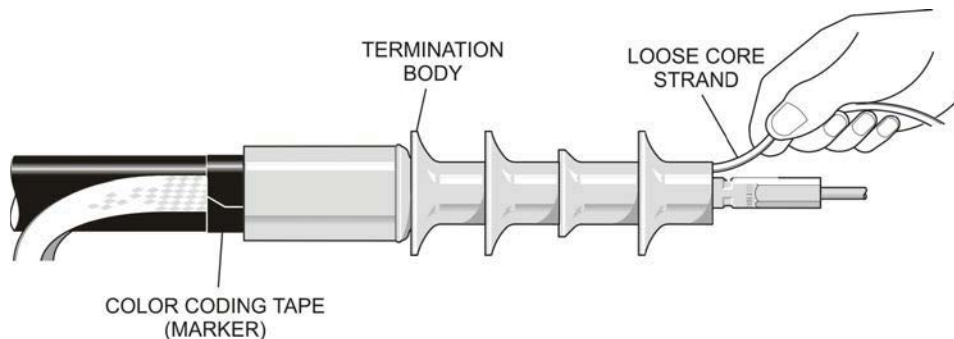

FIGURE 7
STEP 24: SLIDE THE TERMINATION BODY ONTO THE CABLE TO THE EDGE OF THE TAPE MARKER AND REMOVE THE CORE BY PULLING AND UNWINDING THE LOOSE CORE STRAND EXTENDING OUT THE TOP OF THE TERMINATION HOUSING IN A COUNTER-CLOCKWISE MOTION. SEE **FIGURE 7**. AN OCCASIONAL TUG OF THE STRAND WHILE UNWINDING WILL AID IN REMOVING THE CORE.
CAUTION: MAKE SURE THE TERMINATION BODY REMAINS AT THE EDGE OF THE MARKER TAPE. SEE **FIGURE 7**. THE TERMINATION CAN PREMATURELY FAIL IF ITS BODY IS NOT PROPERLY POSITIONED.